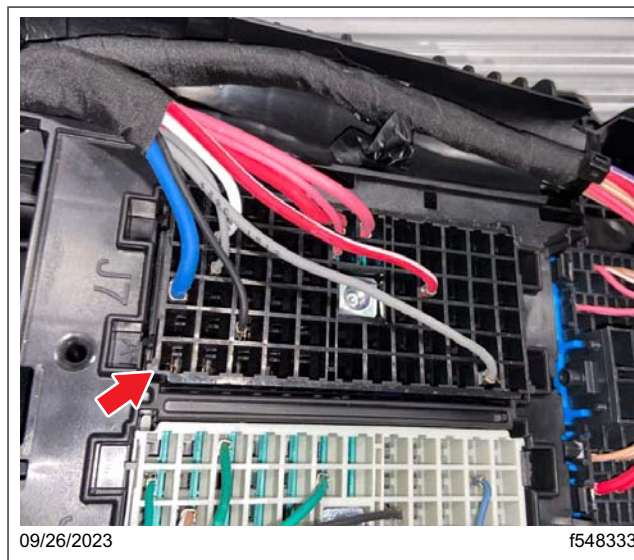

Fig. 65, VPDM J7 Connector
- 14.2 Remove the J7 connector from the VPDM. See Fig. 65.